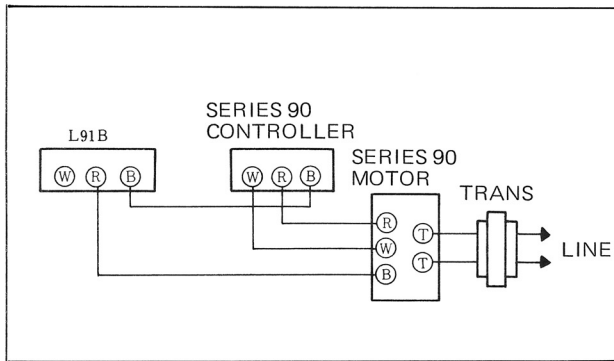

Figure 3 L91B Used as High Limit
3. When the rotation is made in reverse of that in Fig. 3 & 4, replace the wiring to motor W with B.